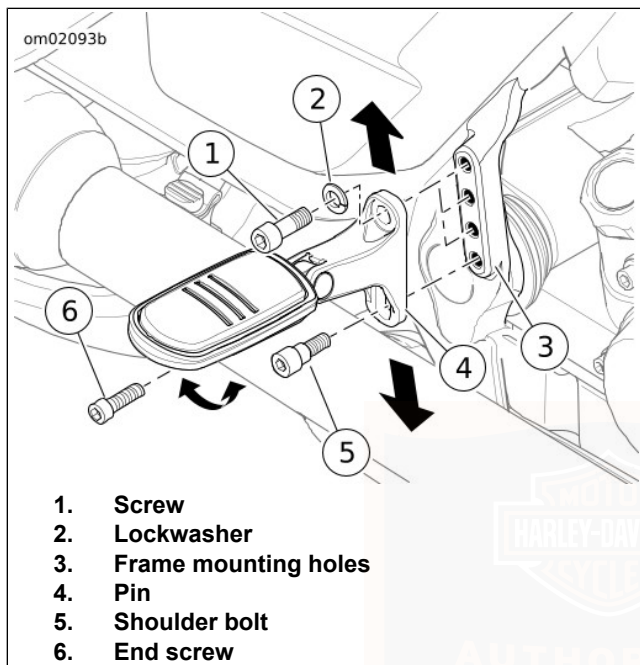

Figure 51. Passenger Footrest: FLHX, FLHXS, FLTRX, FLTRXS, FLHRXS
See Figure 51. If the bracket does not slide up or down, loosen but do not remove the lower shoulder bolt (5).
1. Remove the upper bracket screw (1) and lockwasher (2).
1. See Figure 51. Loosen the end screw (6).